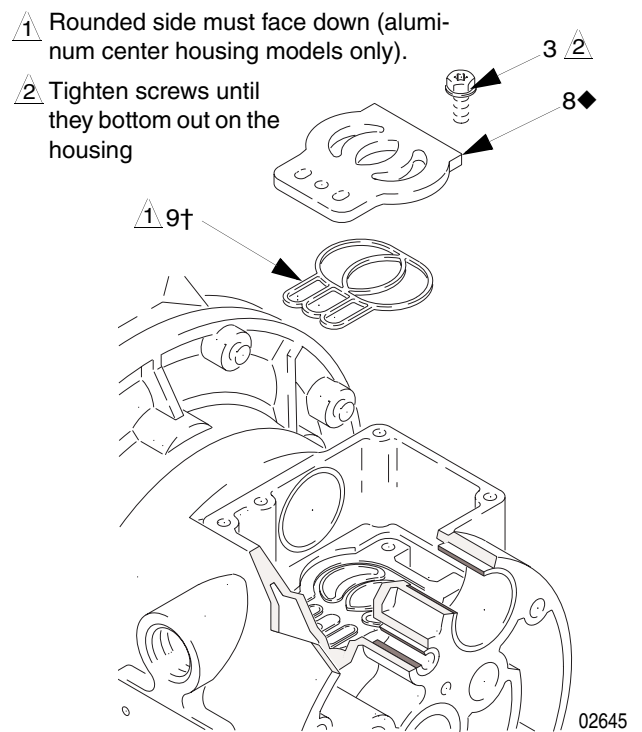

FIG. 8
5. Inspect the valve plate (8◆) in place. If damaged, use a Torx (T20) screwdriver or 7 mm (9/32 in.) socket wrench to remove the three screws (3). Remove the valve plate (8◆) and, on aluminum center housing models, remove the seal (9†). See FIG. 8.
2. On aluminum center housing models, install the valve plate seal (9†) into the groove at the bottom of the valve cavity. The rounded side of the seal **must face down** into the groove. See FIG. 8.
3. Install the valve plate (8◆) in the cavity. On aluminum center housing models, the plate is reversible, so either side can face up. Install the three screws (3), using a Torx (T20) screwdriver or 7 mm (9/32 in.) socket wrench. Tighten until the screws bottom out on the housing. See FIG. 8.